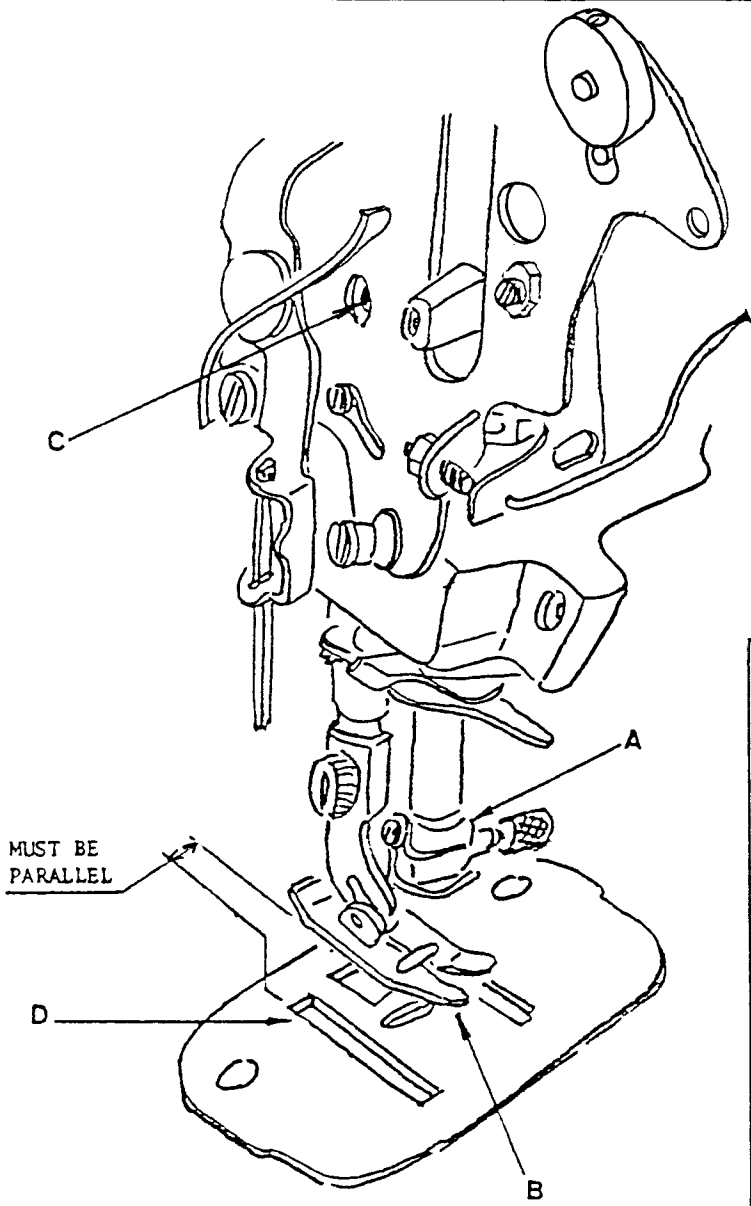

Fig. 11-2
1. Loosen presser bar guide bracket screw (C) leaving a light pinch on presser bar for control.
2. Align presser foot sides with fee slots (D) in throat plate. (Fig. 11-2).
3. Firmly fasten presser bar guide bracket screw (C).